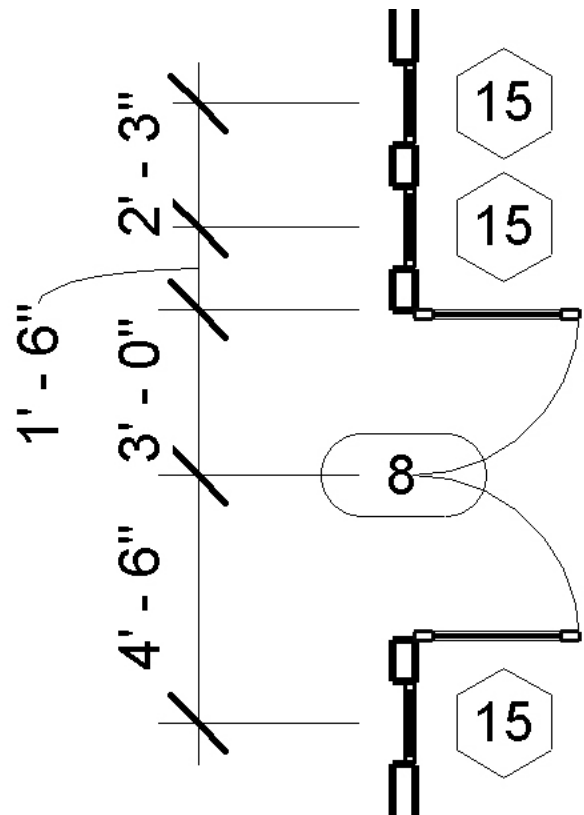

FIGURE 3-5.7 Sidelights added
12. On the West side of the atrium, insert the borrowed lights as shown in Figure 3-5.7; do not add the dimensions.